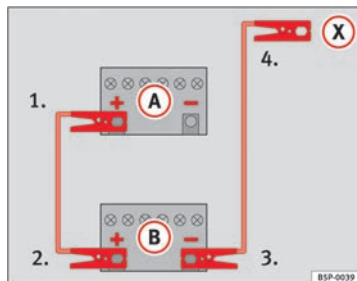
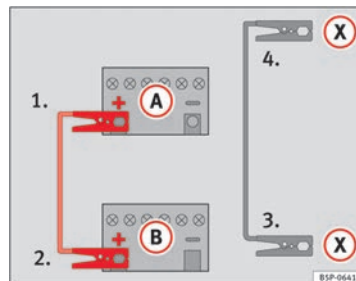

Fig. 244 Diagram of connections for vehicles without Start-Stop system
Fig. 245 Diagram of connections for vehicles with Start-Stop system
- Connect one end of the **red** jump lead to the positive (+) terminal of the vehicle with the flat battery (A) ⇒ Fig. 244.
- Connect the other end of the **red** jump lead to the positive terminal (+) in the vehicle providing assistance (B).
- Connect one end of the **black** jump lead to the negative terminal (-) of the vehicle providing assistance (B) ⇒ Fig. 244.
- Connect the other end of the **black** jump lead (X) to a solid metal component bolted to the engine block or to the engine block itself of the vehicle with the flat battery. However, connect it to a point as far as possible from the battery (A).
- Connect one end of the *red* jump lead to the positive (+) terminal of the vehicle with the flat battery (A) ⇒ Fig. 245.
- Connect the other end of the *red* jump lead to the positive terminal (+) in the vehicle providing assistance (B).
- Connect one end of the *black* jump lead (X) to a suitable ground terminal, a solid piece of metal in the engine block, or to the engine block ⇒ Fig. 245.
- Connect the other end of the *black* jump lead (X) to a solid metal component bolted to the engine block or to the engine block itself of the vehicle with the flat battery. However, connect it to a point as far as possible from the battery (A).